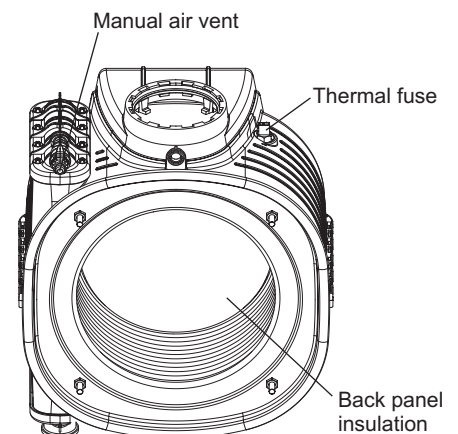

Fig. 7.4
Back panel insulation - Fig. 7.4
7.17 HEAT EXCHANGER THERMAL FUSE - Fig. 7.4